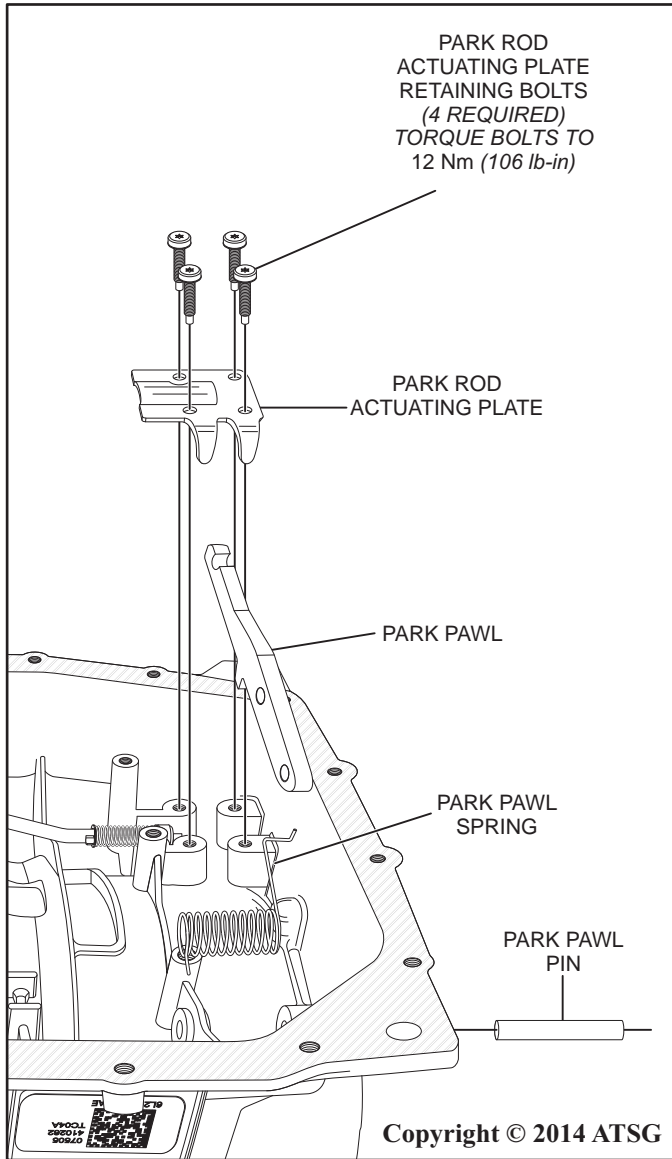

Figure 151
48. Install the park pawl pin into the rear of the case as shown in Figure 151.
49. Push the park pawl pin through the park pawl and then through the park pawl spring as shown in Figure 151.
50. Install the park rod actuating plate and install the four bolts as shown in Figure 151.
51. Torque the four park rod actuating plate retaining bolts to 12 Nm (106 in. lb.) as shown in Figure 151.